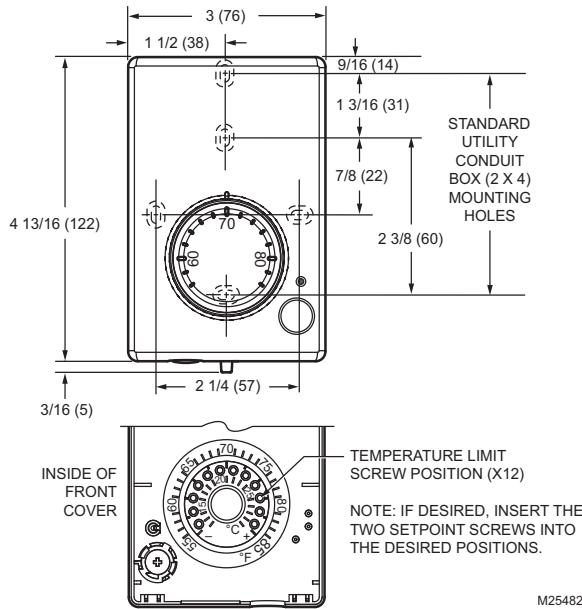

Fig. 4. Wall Module Subbase Dimensions in Inches (mm) and Temperature Limit Set Screw Locations (TR23 Shown).
1. *Optional:* For models with a temperature dial, insert the two setpoint screws into the inside of the cover to set the desired temperature range limit. See Fig. 4.
The humidity sensing control mode is set with this 2-position DIP switch. Refer to Fig. 4 on page 3 for location of DIP switch S1.